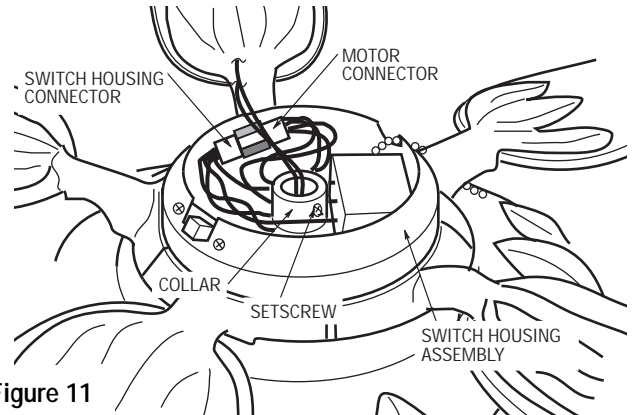

Figure 11
- 17. Reinstall the switch housing assembly by passing the wires from the motor shaft through the collar, screw the assembly onto the motor shaft (Figure 11). Tighten the setscrew using the 5/32" hex wrench (supplied). Engage the connector from the switch housing to the motor connector. The two connectors are keyed and must be mated correctly before they can be engaged.